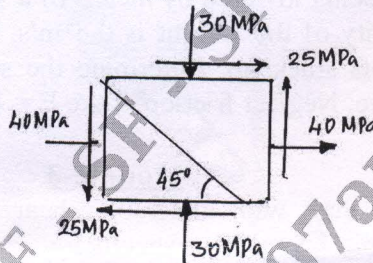

Fig. Q1 (c)
c. A point in a structural member is subjected to plane stress as shown in Fig. Q1 (c). Determine the following : (10 Marks)